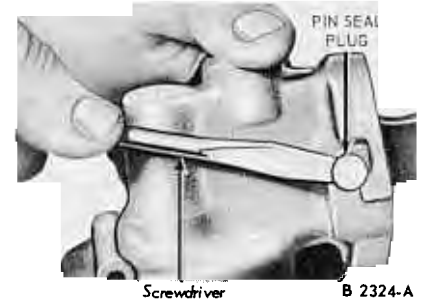

FIG. 9—Rocker Arm Pin Seal Plug Removal
1. Scrape away the staking mark and remove the rocker arm pin seal plug as shown in Fig. 9.